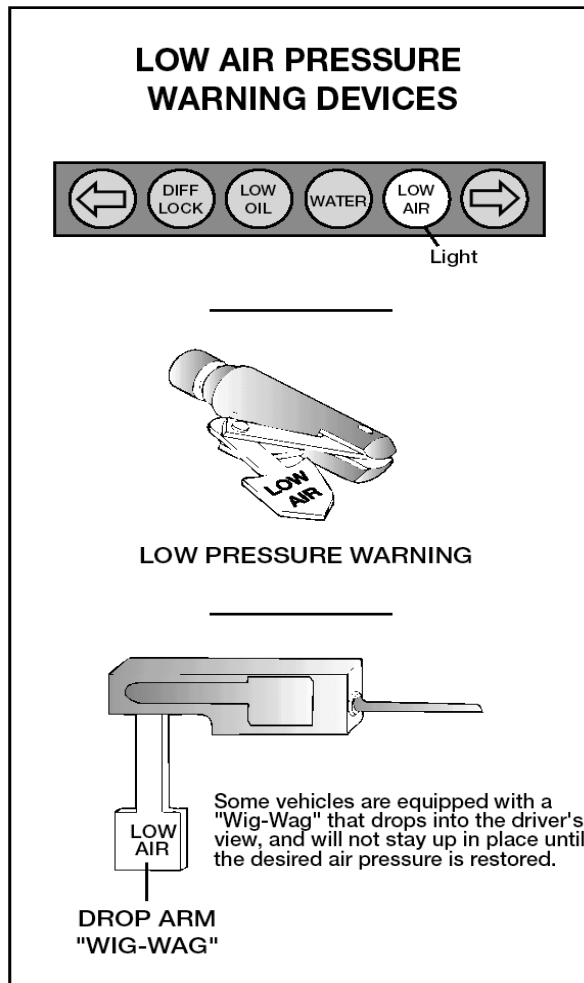

Figure 5.5
**Test Low Pressure Warning Signal** - Shut the engine off when you have enough air pressure so that the low pressure warning signal is not on. Turn the electrical power on and step on and off the brake pedal to reduce air tank pressure. The low air pressure warning signal must come on before the pressure drops to less than 60 psi in the air tank (or tank with the lowest air pressure, in dual air systems). See Figure 5.5.